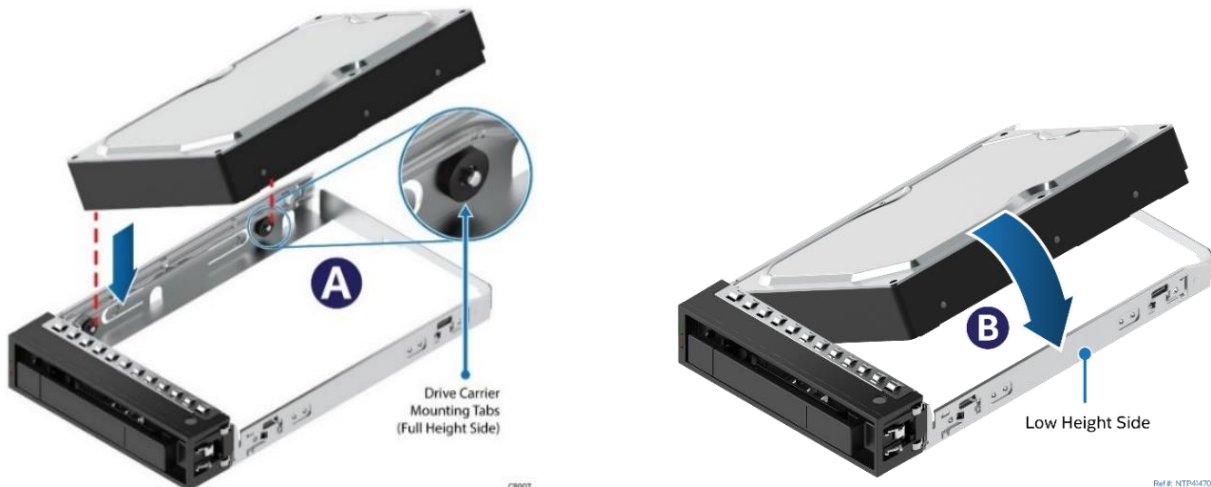

Figure 68. 3.5" Drive Installation to Drive Carrier
3. Install the replacement drive into the drive carrier (see Figure 68)